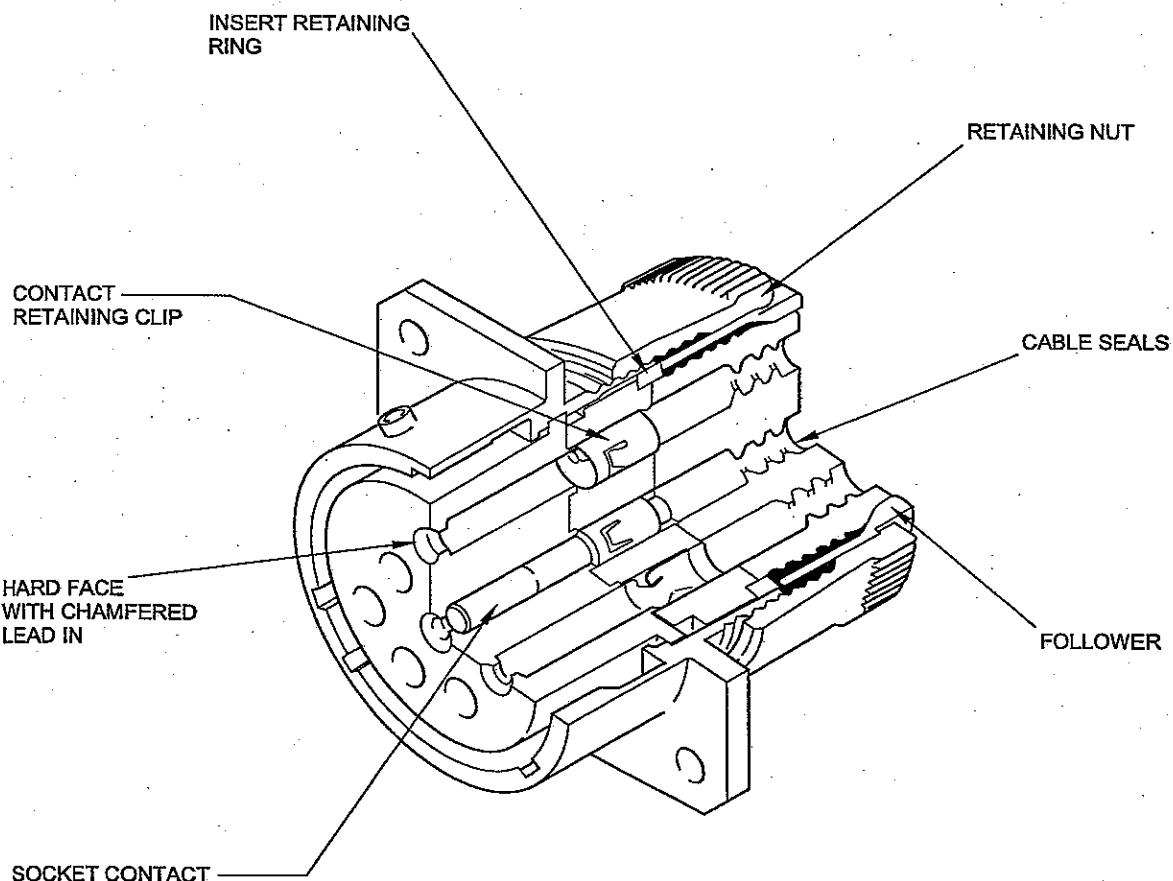

Fig 1. Connector, 460-series, sectional view
1.1 Environmental connectors in the Deutsch Ltd 460 series are bayonet locking fittings, with inserts that meet all requirements of MIL-C-26482 specification. A sectional view of a 460 series connector is shown in Fig 1.